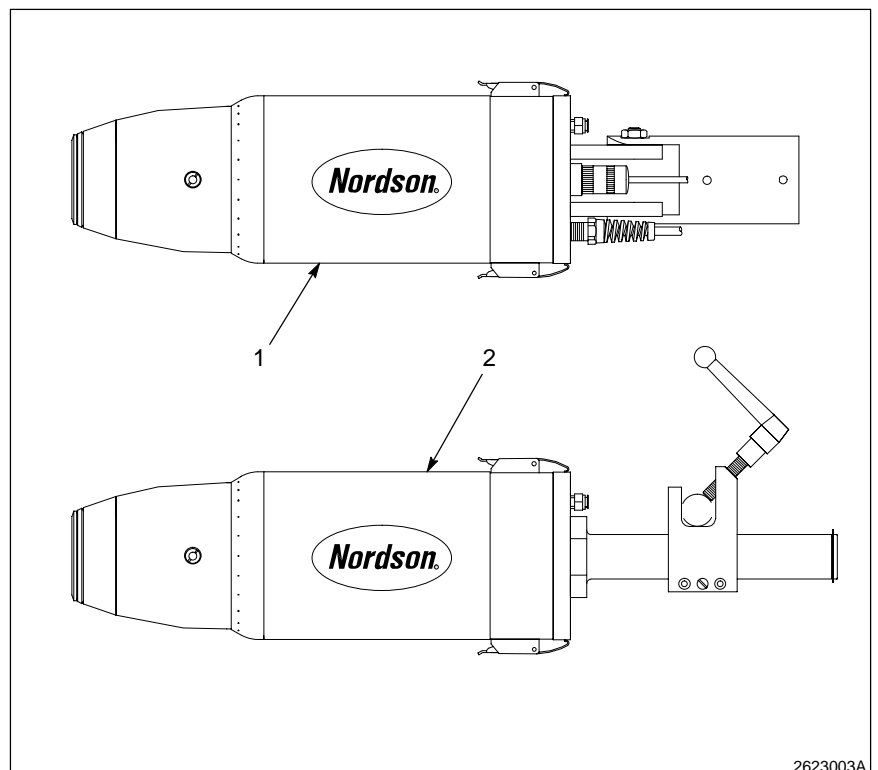

Fig. 3-1 Mounting assemblies
See Figure 3-1. The system may be mounted to a tube or a bar mount assembly.
See Figure 3-1. The assembly fits over the end of a 48.5 mm (1.91 in.) outside diameter (OD) aluminum or steel tube. It is usually used for permanent installations because it is more rigid. The pneumatic, electronic, and powder lines can be routed directly through the tube, resulting in a less cluttered installation.
See Figure 3-1. This assembly (2) has an adjustable clamping bolt for attachment to a round or square, 25.4 mm (1 in.) maximum, bar. It is usually used for temporary or lab installations, which may require frequent installation, removal, or repositioning. It can also be used for permanent installations.